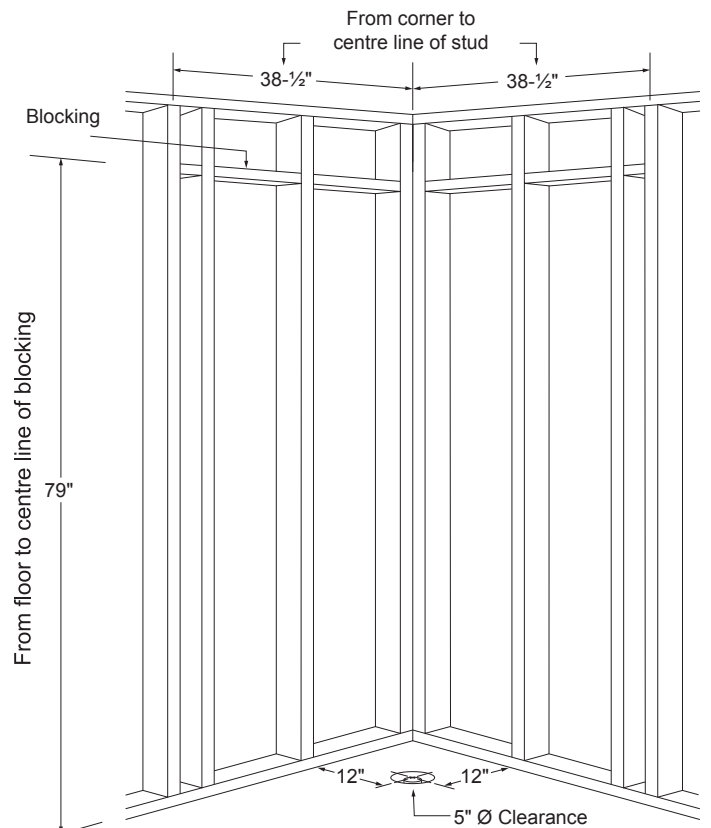

FIGURE 2 (A38NA)
Install framing and blocking as shown in **Figure 1** (2040NA/2042NA, 2040RF/2042RF) or **Figure 2** (A38NA).
1. Build a solid frame using dimensions listed in **Figure 1** or **Figure 2** (dependent on model you are installing).